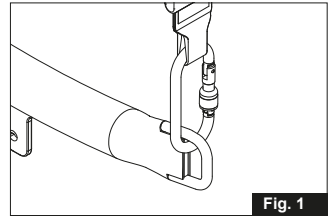

Fig. 1
1. Start with the installation of the GH3 lifting beam. Place each of the lifting straps oval hook in the eye of the GH3 lifting beam, one on each side (Fig. 1 and 2).